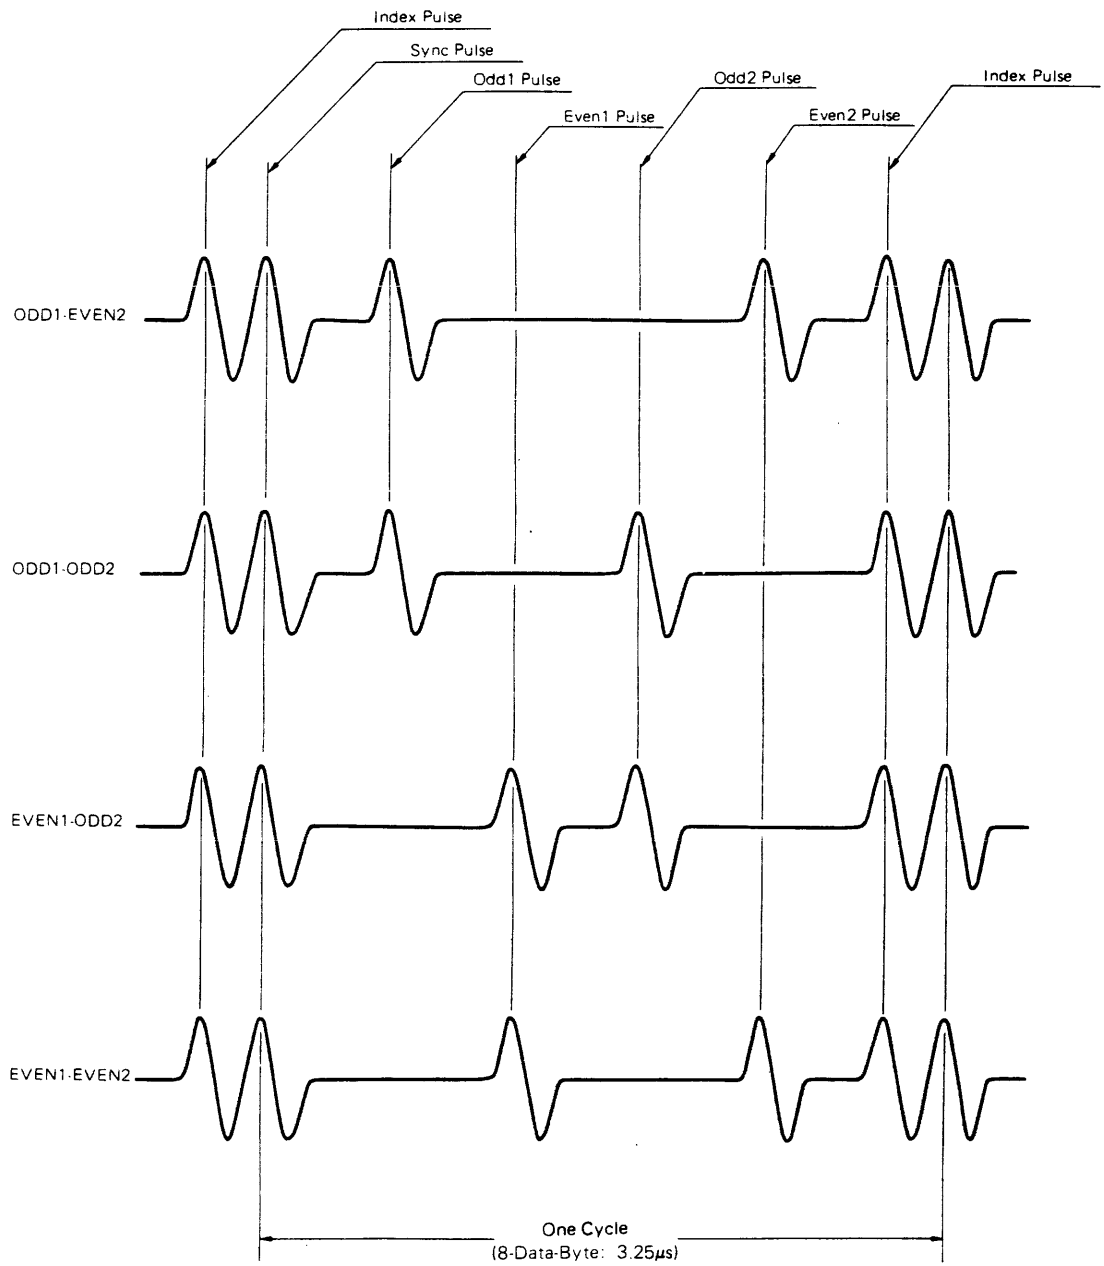

Figure 4.2 Normal bit pattern
Angular positioning is determined by a series of sync bits which are written on each track. Through a combination of Index Bit and Normal Bit; the “sync pattern” is developed. A series of unique sync patterns is written at the factory and used in the identification of specific disk regions. Refer to Figure 4.2 and Figure 4.3. Index mark, IGB, OGB1, and OGB2 patterns are described in item (3) in subsection 4.2.3.